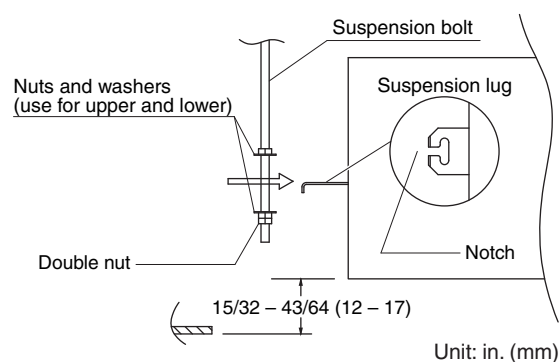

Fig. 3-5
- (2) The length of suspension bolts must be appropriate for a distance between the bottom of the bolt and the bottom of the unit of more than 19/32" as shown in Fig. 3-5.
- (3) Thread the 3 hexagonal nuts and 2 washers (field supply) onto each of the 4 suspension bolts as shown in Fig. 3-5. Use 1 nut and 1 washer for the upper side, and 2 nuts and 1 washer for the lower side, so that the unit will not fall off the suspension lugs.
- (4) Adjust so that the distance between the unit and the ceiling bottom is 15/32" to 43/64". Tighten the nuts on the upper side and lower side of the suspension lug.
- (5) Remove the protective polyethylene used to protect the fan parts during transport.